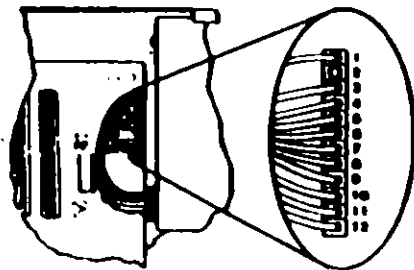

Figure 1 System Board Power Connector
- Check for a voltage of 2.4 to 5.2 Vdc between pins 1 and 5 (ground) at the system board power supply connector, Figure 1.